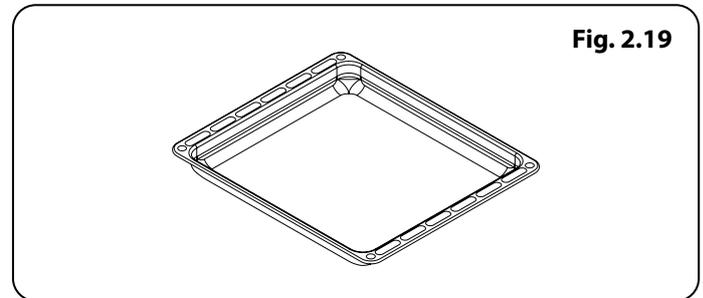

Fig. 2.19
Switch on the **GRILL** function using the function selector knob (Fig. 2.19), . The oven thermostat and warning lights will illuminate, and the grill heating element will switch on. Select the required temperature using the function selector knob. Refer to the cooking table for further information. Use this function for grilling. When you have finished grilling, switch the top oven off.
- Insert the accessory to the correct position inside the oven (Fig. 2.19).
### The Deep Tray (Fig. 2.19)